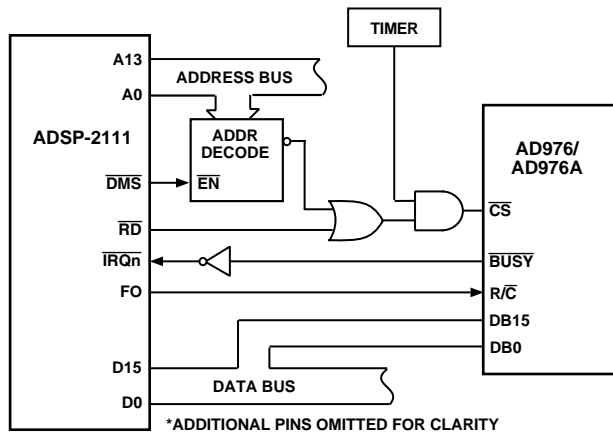

Figure 21. AD976/AD976A to ADSP-2111 Interface
Figure 21 shows an interface to the ADSP-2111 signal processor. In this example, \overline{CS} is being used to control conversions and is generated by an external timer. A conversion is initiated each time the timer output goes low as long as you are not reading from the AD976/AD976A and while the Flag Output (FO) pin of the ADSP-2111 is low. When a conversion is complete, the \overline{BUSY} line will return high. With the \overline{IRQn} pin programmed to generate an interrupt on a high-to-low transition, an interrupt will occur at the end of each conversion. The 16-bit result of the conversion can be read from within the interrupt service routine by first forcing FO high, then performing a read operation with the AD976/AD976A.